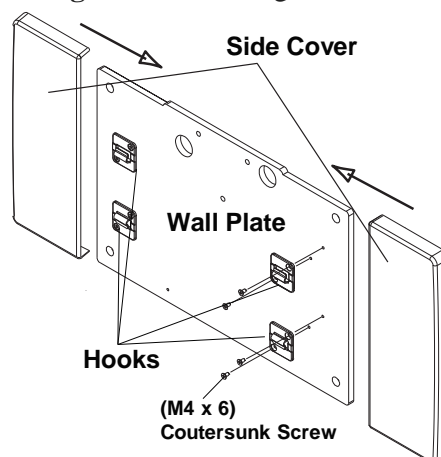

Fig.3-10 Side Cover Installation
- Slide in the side cover from right and left side of the wall plate as the hooks catch the side covers. (Fig.3-10)